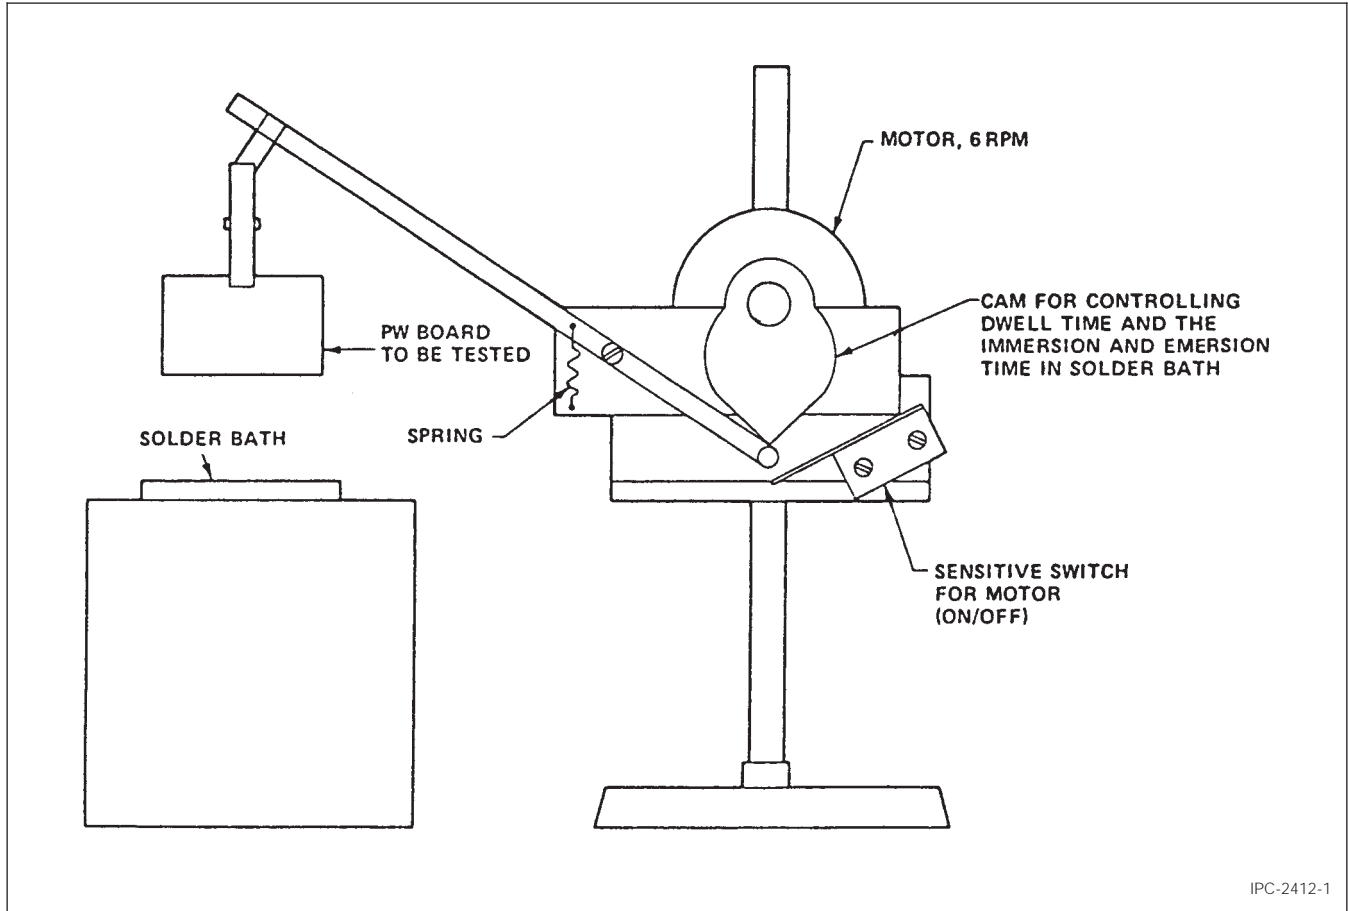

Figure 1 Suggested Dipping Device
4.2 A device, as shown in Figure 1, or some other similar device may be used, if: